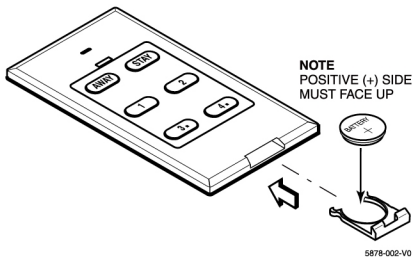

Figure 2 - Battery Replacement
4. Insert a new battery in the tray as shown in Figure 2.